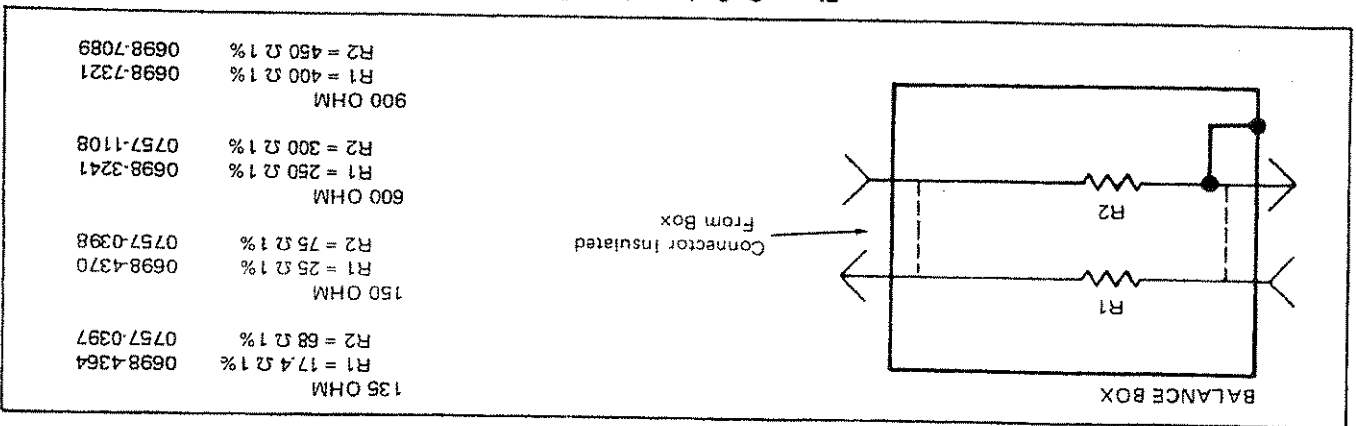

Figure C-3. Impedance Box.
b. Connect a 3320B Synthesizer to the 3552A through the 900 ohm impedance box (see Figure C-3).
- d. Connect a 3320B Synthesizer to the 3552A through the 600 ohm impedance box (see Figure C-3).
- a. Connect a 3320B Synthesizer to the 3552A through the 600 ohm impedance box (see Figure C-3).